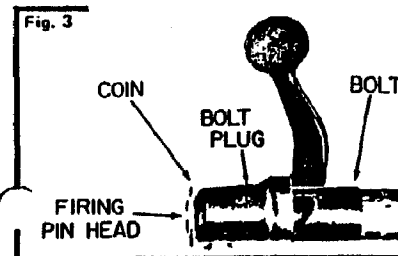

Fig. 3
**TO DISASSEMBLE BOLT PARTS** — Remove bolt and insert coin or similar piece in slot at rear of firing pin head (Fig. 3). Hold bolt handle and turn bolt plug until firing pin assembly can be unscrewed and removed.